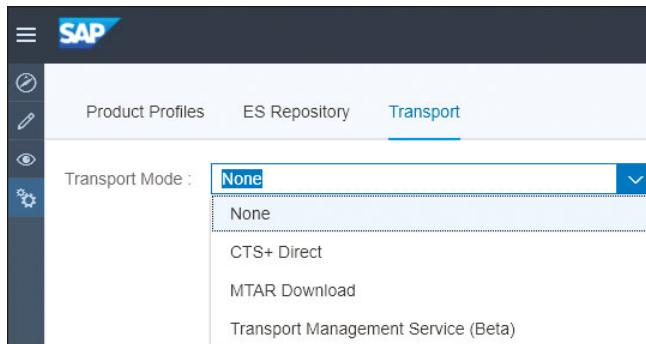

Figure 6.83 Transport Modes in the Web UI Settings Section
3. As **Transport Mode**, select **Transport Management Service (Beta)** (Figure 6.83).